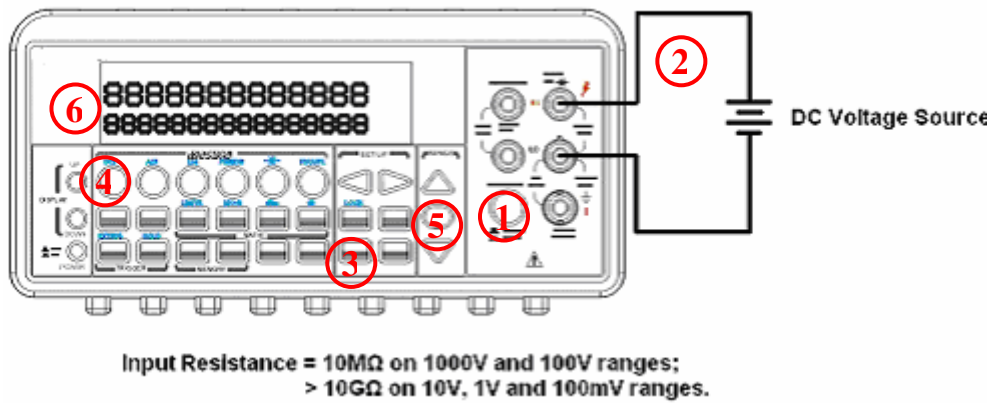
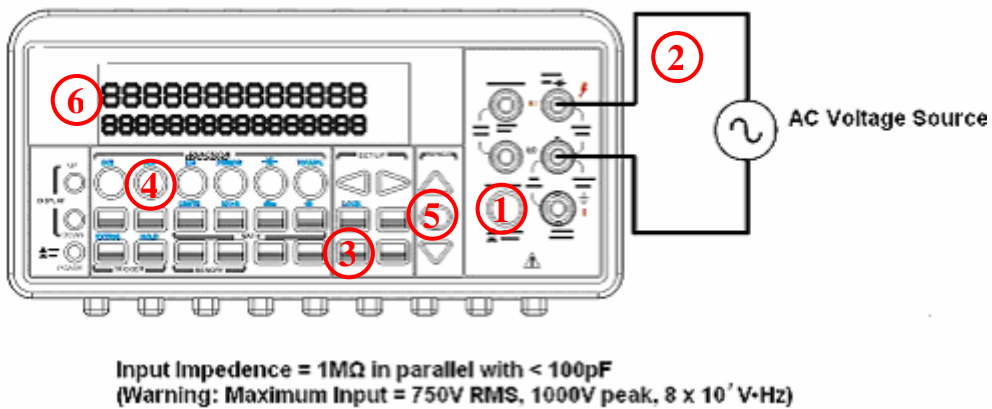
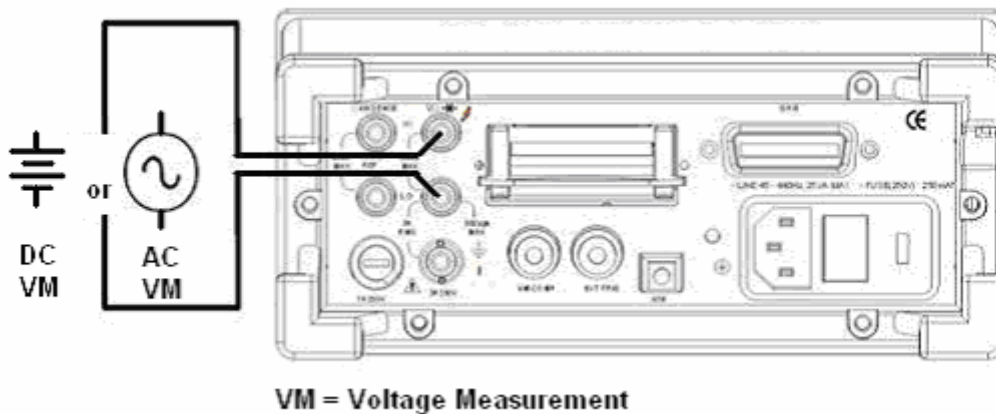

Figure 3-1
Figure 3-2
Figure 3-3
The ranges for DC voltage measurements in 12061 are 100mV, 1V, 10V, 100V and 1000V. For AC voltage measurements, the ranges are 100mV to 750V AC-Coupled TRMS, or 1000V peak. **Figures 3-1** and **3-2** show the locations of the buttons needed and message display for voltage measurement. **Figure 3-3** shows the location of the input terminals on the rear panel.
- ① Selects input signal connections on front or rear panel.
- ② Connect the test leads to the terminals as shown in **Figure 3-1**(DC) or **Figure 3-2** (AC).
- ③ Set RESOLUTION of DCV (Refer to 4.1.3), BAND WIDTH of ACV (Refer to 4.1.2.1) or skip this step if default is to be used.
- ④ Press DCV or ACV button for DC or AC voltage measuring.
- ⑤ Select the auto-range function by pressing AUTO button on the front panel or use \triangle ∇ buttons to select desired range.
- ⑥ Connect test leads to your source signal and observe the reading shown on the display. If the input signal is beyond the allowed range, an overflow message "OVLD" will be displayed.
※ Note: The rear panel terminals can also be used via the same procedures as the front panel terminals. (Refer to Figure 3.3)
- ② Connect the test leads to the terminals as shown in **Figure 3-2**.
- ③ Set RESOLUTION (Refer to 4.1.1) and INPUT JACK. Or skip this step if default is to be used.
- ④ Press FREQ button for frequency measurement or SHIFT + FREQ buttons for period measurement.
- ⑤ Select the auto-range function by pressing AUTO button on the front panel or use \triangle and ∇ buttons to select the desired range.
※ Note: The rear terminal panel also can be used via the same procedures as the front panel. (Please refer to **Figure 3-3**)
- ① Connect the test leads to the terminals as shown in **Figure 3-2**.
- ② Set REConnect the input signal as the following figure.
- ③ Set threshold resistance via pressing CONFIG + CONT buttons. (Or skip this step if default resistance is to be used) When ready, press ENTER button.
- ④ Press CONT button.
- ⑤ The measured value will be shown on the display automatically. Meter "beeps" when measured resistance value is lower than threshold